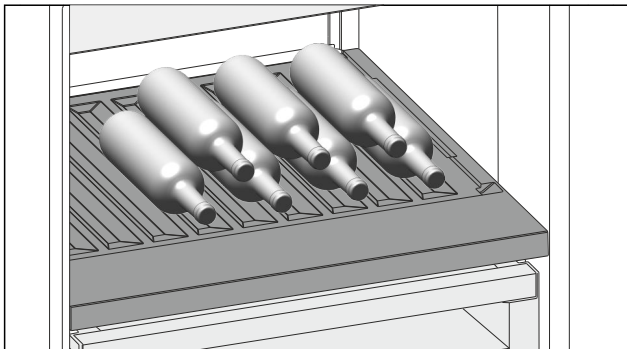

Fig. 206 Example illustration
- ▶ Place bottles in the back row with their bases against the back wall. (see Fig. 206)